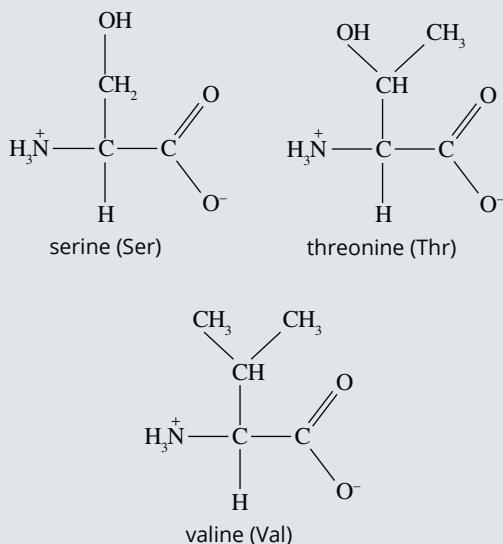

FIGURE 13.3.5 Structures of three amino acids.
- 6** Reversed-phase HPLC, uses a polar mobile phase and a non-polar stationary phase. A mixture of the amino acid molecules serine, threonine and valine (Figure 13.3.5) was analysed by reversed-phase HPLC. List the amino acids in the order that they would reach the detector.